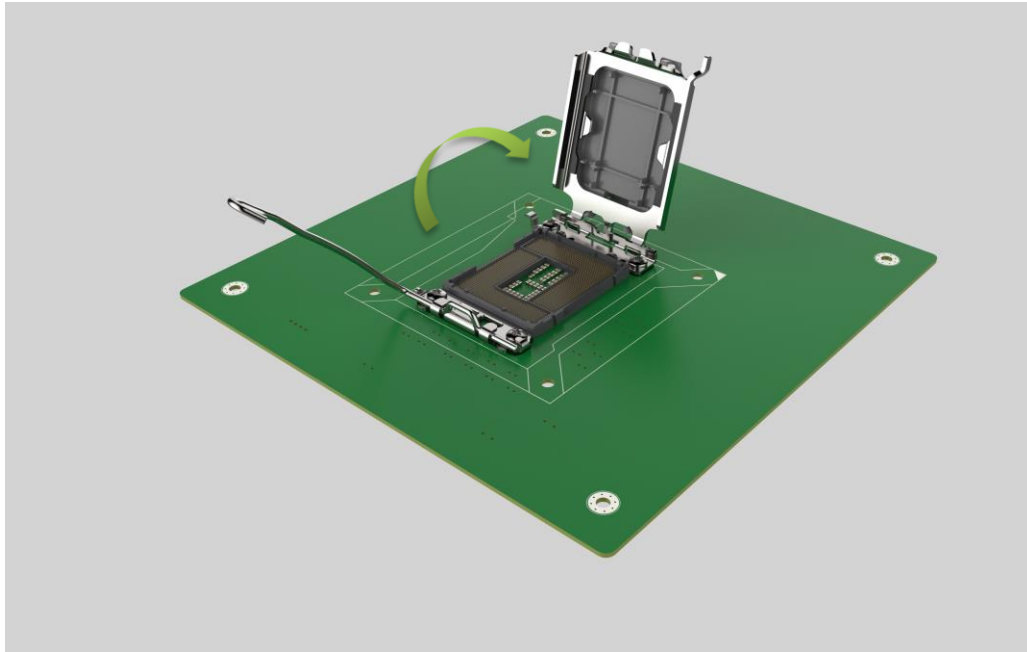

Figure 3-4: Remove Protective Cover
Step 2: Open the socket and remove the protective cover. The black protective cover can be removed by pulling up on the tab labeled "Remove". See Figure 3-4.